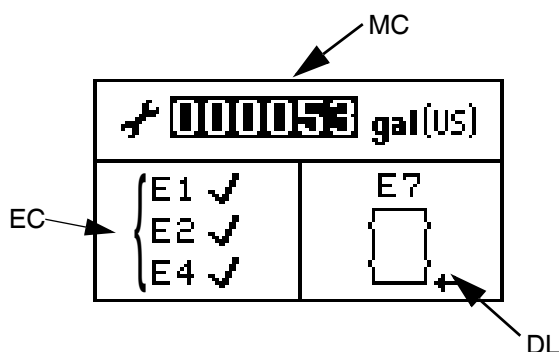

FIG. 8: Setup Screen 2
**NOTE:** When E1, E2, and E4 diagnostic options are enabled, a ✓ will appear on the setup screen. See FIG. 8.